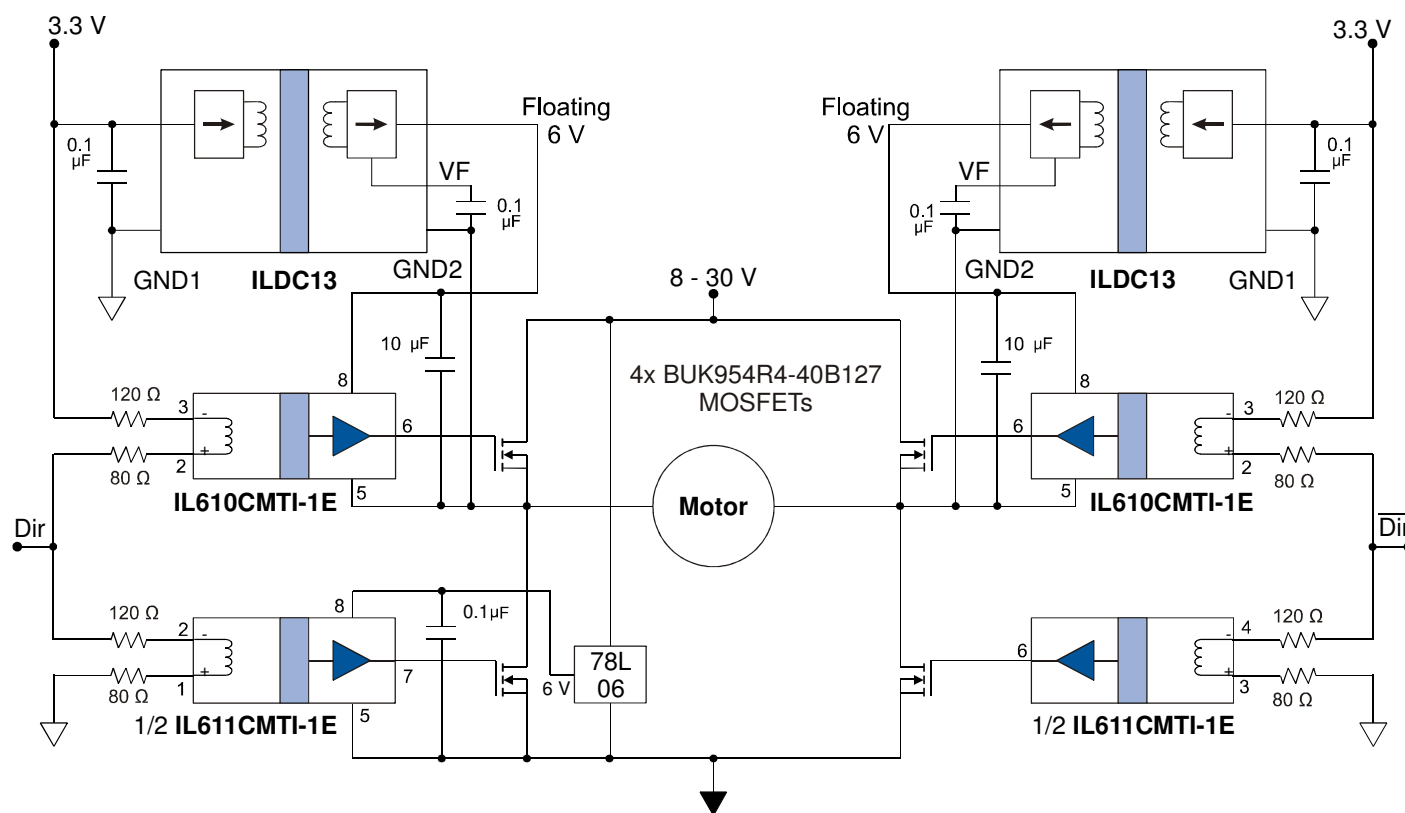

Figure 17. Simple isolated H-bridge.
- Updated simple H-bridge application circuit with ILDC13 (Fig. 17).